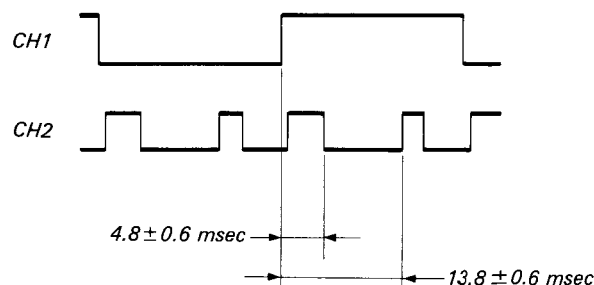

Fig. 8-11.
- 2) Adjust to 4.8 ± 0.6 msec with RV203. (See Fig. 8-11.)
- 3) Adjust to 13.8 ± 0.6 msec with RV204. (See Fig. 8-11.)